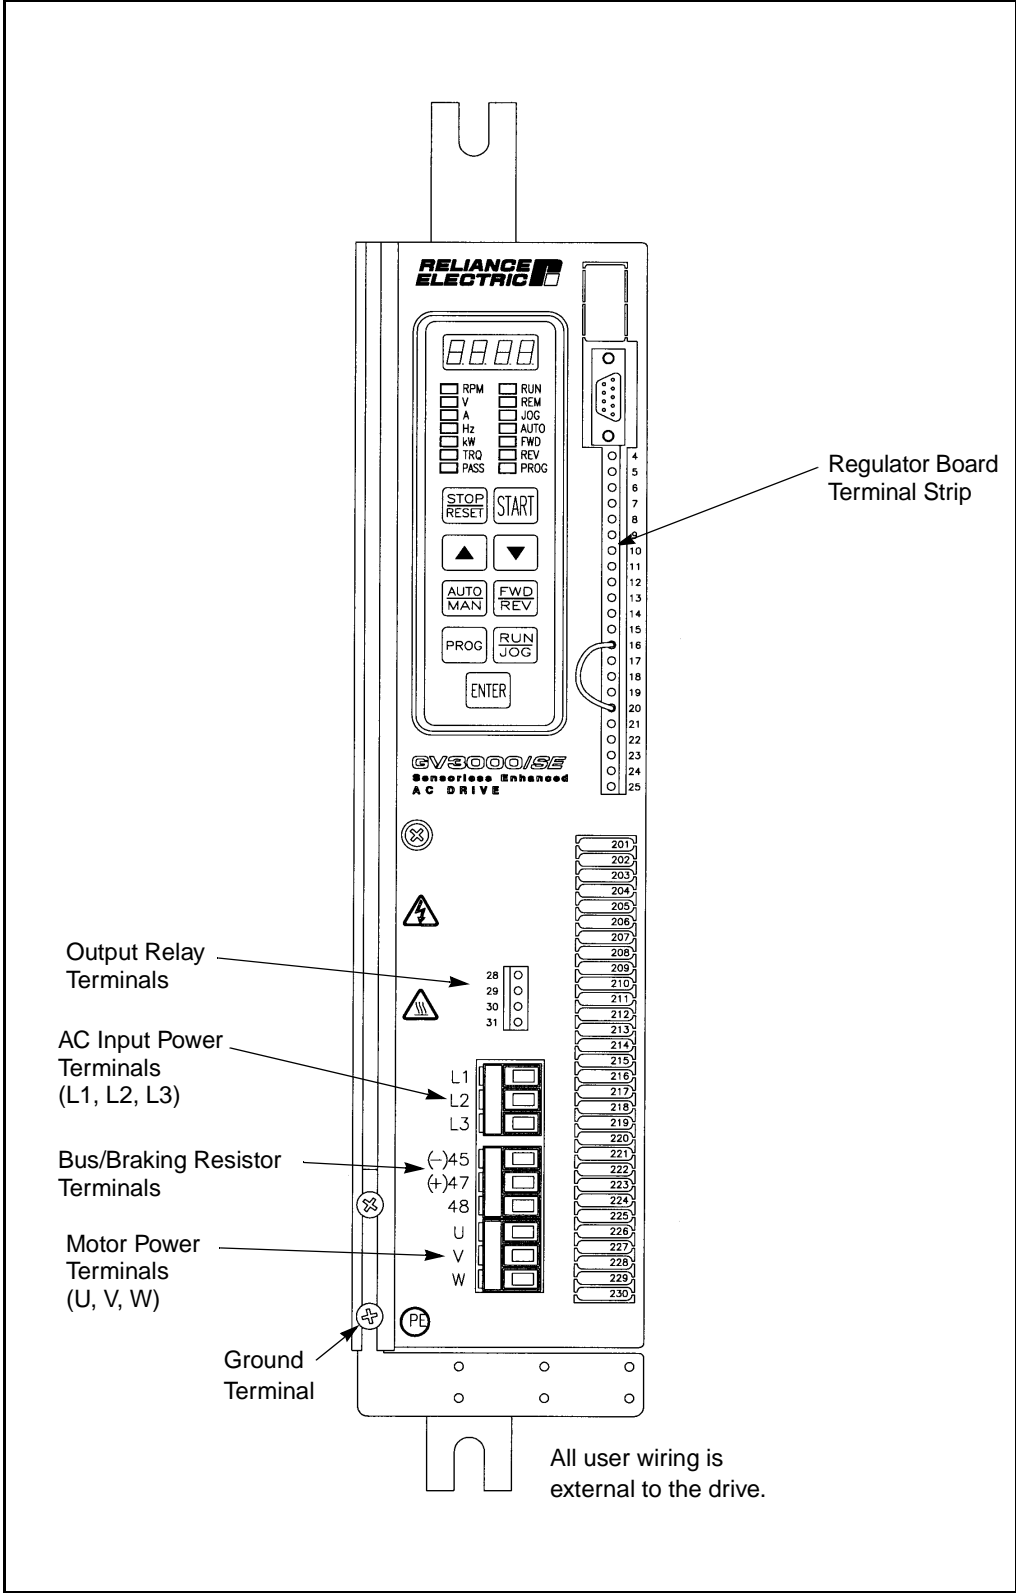
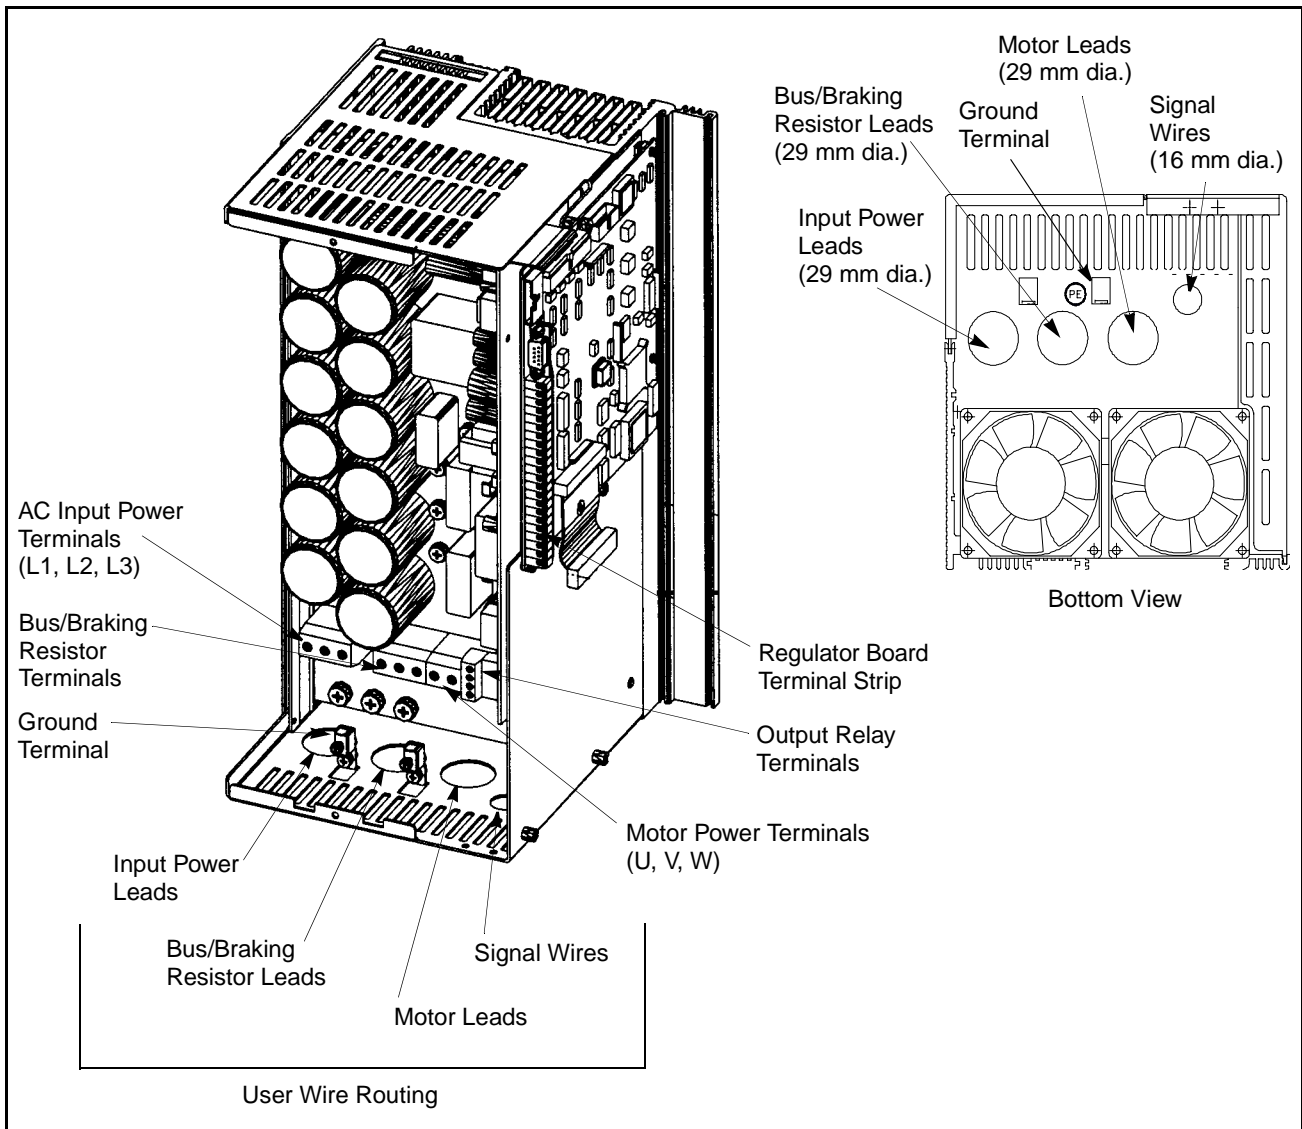

Figure 4.1 – Wire Routing Locations for 2 to 15 Amp Drives
Figure 4.2 – Wire Routing Locations for 24 to 30 Amp Drives
All wiring should be installed in conformance with the applicable local, national, and international codes (e.g., NEC/CEC). Signal wiring, control wiring, and power wiring must be routed in separate conduits to prevent interference with drive operation. Note that no wires are to be routed behind the drive. Use grommets, when hubs are not provided, to guard against wire chafing. Figures 4.1, 4.2, and 4.3 show the wire routing, grounding terminal, and power terminal strips of the GV3000/SE Bookshelf drives.
On 2 to 15 A drives, the grounding terminal is located on the drive faceplate (refer to figure 4.1). On 24 to 43 A drives, you will need to remove the drive faceplate and cover to access the grounding terminal (refer to figure 4.2 or 4.3).
- Step 1. Run a suitable equipment grounding conductor unbroken from the drive's ground terminal to the motor's ground terminal and then to earth ground. See figures 4.1, 4.2, or 4.3.
Step 1. Wire the AC input power leads by routing them according to drive type. Refer to figures 4.1, 4.2, or 4.3. Tables 3.5 and 3.6 contain the recommended power wiring sizes.
- Step 1. Wire the three-phase AC output power motor leads by routing them according to drive type. Refer to figures 4.1, 4.2, or 4.3. Tables 3.5 and 3.6 contain the recommended power wiring sizes.